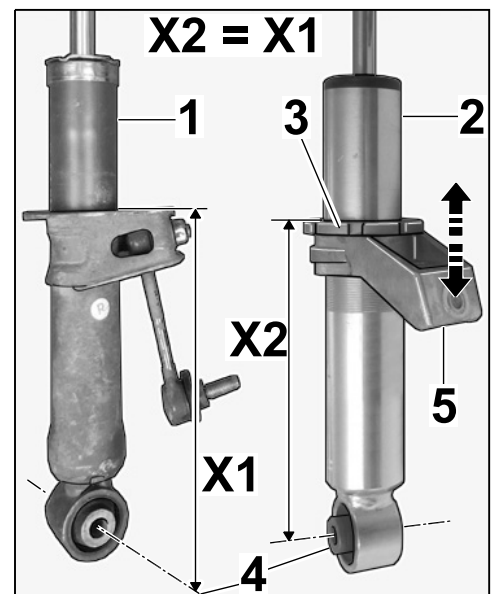

Figure 8
- 3.2 Adjust dimension X2 (spring plate – lower/bushing for shock absorber ⇒ *Figure 8-X2-*) in accordance with dimension X1 (standard spring strut).